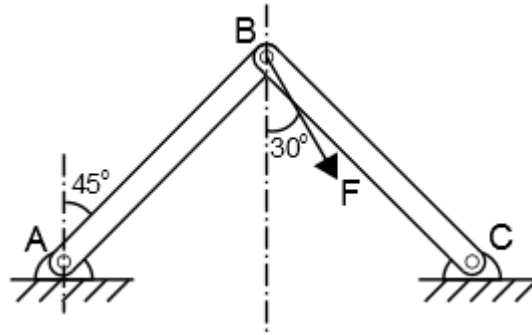

Figure Q6b
- (b) The pin-jointed framework is subjected to an external load as shown in Figure Q6b. If each member has a length L , cross sectional area A and modulus of elasticity E :